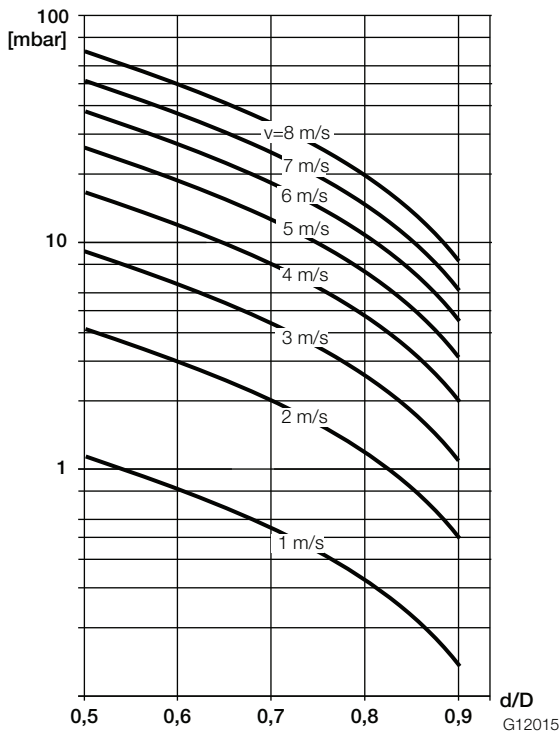

Fig. 19: Nomograph for pressure drop calculations for flange transition piece with $\alpha/2 = 8^\circ$
2. Determine the flow velocity based on the flow range nomograph (Fig. 19).
3. Read the pressure drop on the Y-axis in Fig. 19.